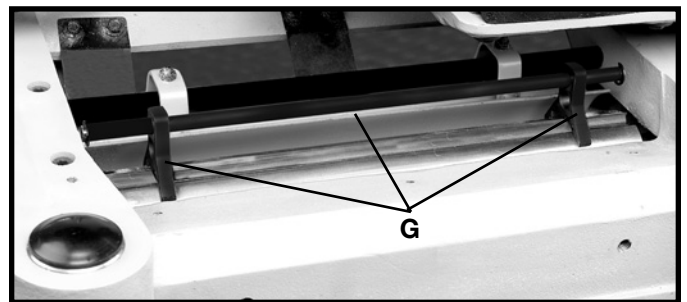

Fig. 35
A. Carefully place the knife setting gage (G) Fig. 35, on the cutterhead as shown.